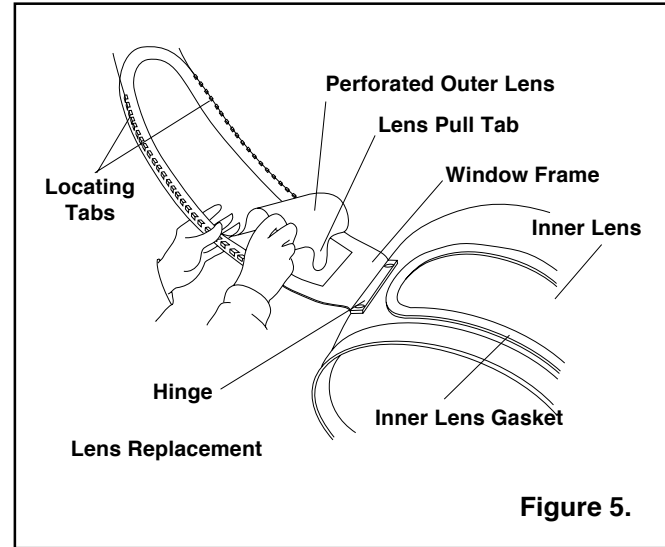

Figure 5.
9.2 Replacing Perforated Outer Lenses, Figure 5
9.2.5 Pick up the stack of prepared lenses. They will be installed with the straight side toward the top of the helmet, and the pull tabs toward the hinged end of the window frame. See Figure 5.